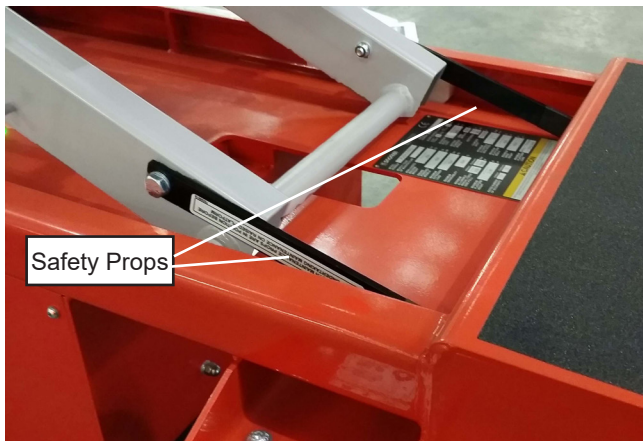

Figure 5 – Safety Props
2. Using the lower controls, raise the platform until the open distance on the chassis is wide enough to position the safety props. Refer to Figure 5.